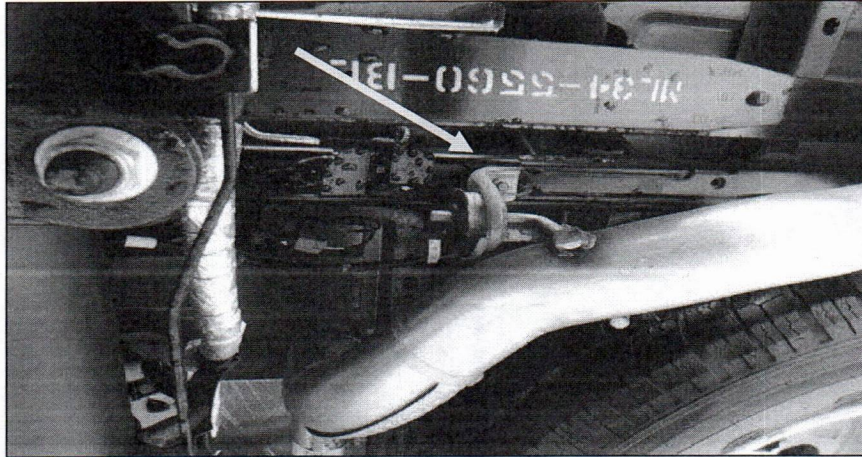

Figure 3
7. Remove the (x2) bolts from the left and right tailpipe hangers at the frame rails. **Fig.3**